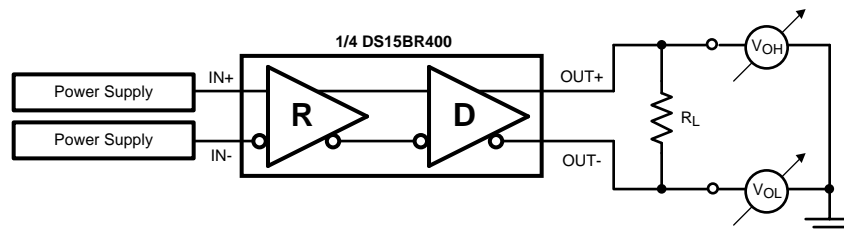

Figure 5. Differential Driver DC Test Circuit
| V OD                        | Differential Output Voltage, 0% Pre-emphasis (2) | R L = 100Ω external resistor between OUT+ and OUT–<a href="#">Figure 5</a>  | 250  | 360        | 500   | mV    |